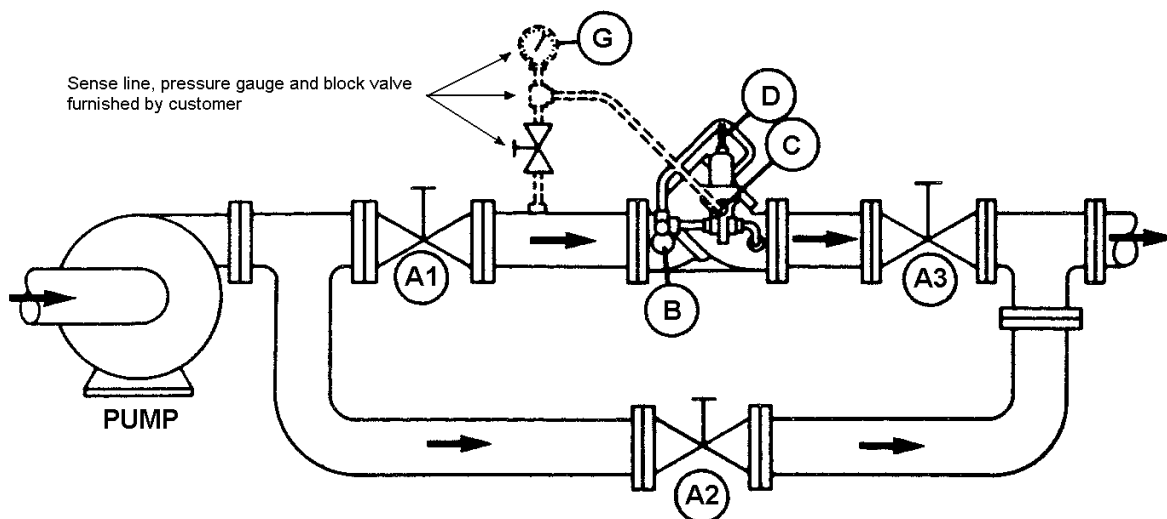
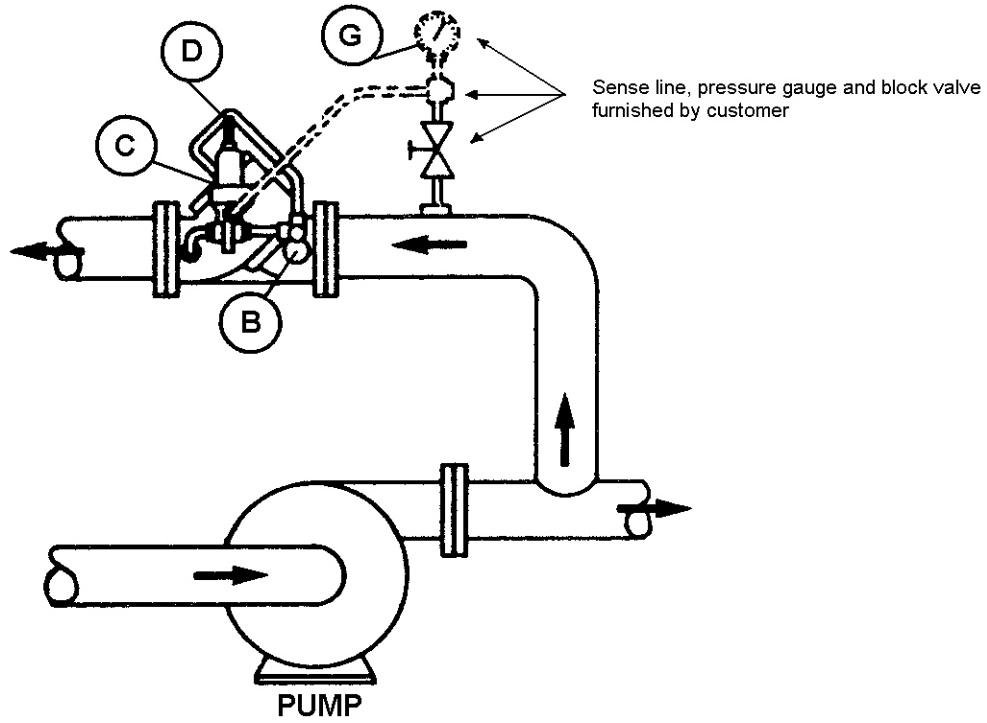

Figure 2-1. Back Pressure Model 760
Figure 2-2. Pressure Relief/Pump Bypass Model 761
The Model 760 and 761 valves are controlled by a normally closed pilot which senses line pressure at a selected point upstream of the valve and throttles the valve to maintain a desired minimum pressure at that point. If line pressure at the sense point exceeds the setting of the pilot, the pilot allows the valve to open until the correct pressure level is reached. Conversely, if line pressure at the sense point falls below the setting of the pilot, the pilot throttles the valve closed until the correct pressure level is reached. This operation may be more easily understood by referring to the typical installations shown below. Figure 2-1 shows a Model 760 used as a back pressure valve, while Figure 2-2 shows a Model 761 used as a pressure relief/pump bypass valve. In the static condition, both the pilot and valve are closed. When the pump is activated the initial pressure developed at the valve intake is applied to the top of the valve piston, keeping it tightly seated and preventing all flow. As pump discharge pressure rises, however, it soon exceeds the set point of the pilot, which then opens the valve to provide flow.
Once the valve has opened and a continuous flow is established, the pilot monitors upstream pressure and compares it with the set point. If upstream pressure is greater than the set point, the pilot vents the pressure on top of the valve piston downstream, and the valve opens wider to conduct more flow. If upstream pressure is less than the set point, however, the pilot applies additional pressure to the top of the valve piston, and the valve throttles closed to restrict flow. The valve will limit flow in this manner in order to maintain the required minimum back pressure. The needle valve (B) shown in Figures 2-1 and 2-2 is a sensitivity adjustment used to regulate the speed at which the valve responds. It also controls valve closing speed. The Model 760 and 761 valves are identical in their construction. Different model numbers are used to differentiate between the applications.